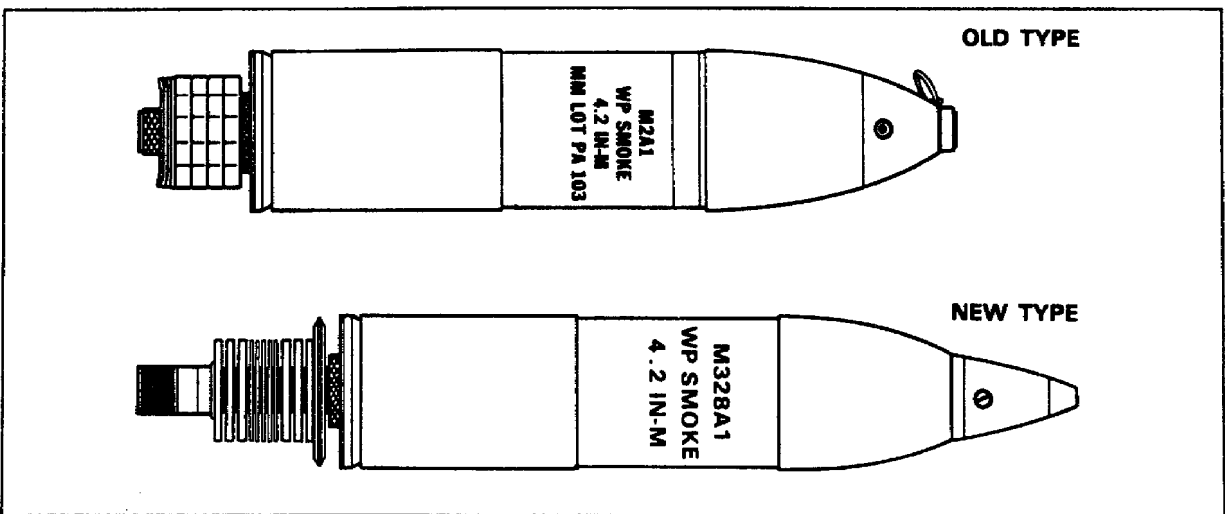

Figure 33. 4.2-Inch Smoke-White Phosphorous Mortar Cartridges.
4.2-Inch Smoke-White Phosphorous Mortar Ammunition. The 4.2-inch smoke-white phosphorous mortar cartridge is used as an incendiary device against personnel and material and to produce a screening smoke. See Figure 33. The two cartridges shown differ only in the tail assembly, the fuze, and the color code. The old cartridge may be gray with yellow markings and a yellow band. The new cartridge, an improved model, is always painted in the new color code, light-green with light-red markings and a yellow band.